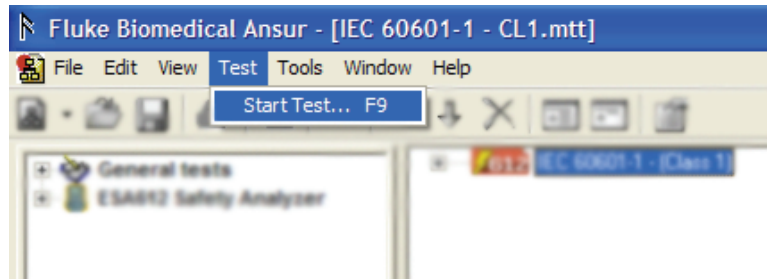

Figure 3-4. Starting a Test Template
1. Click **Test** → **Start Test** or click the Start Test toolbar button () to display test initialization window as shown in Figure 3-4.